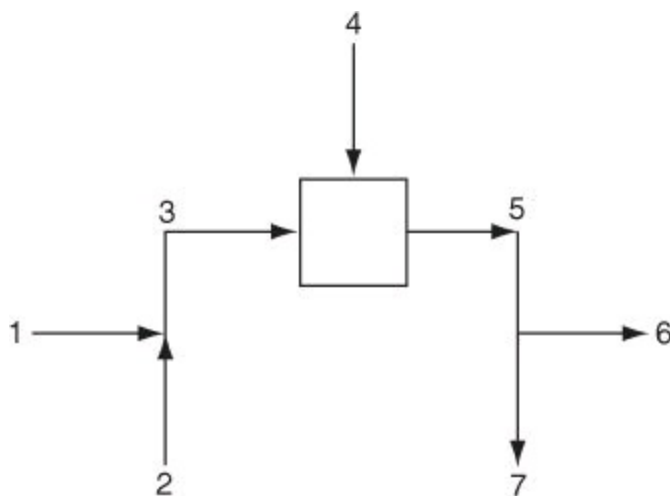
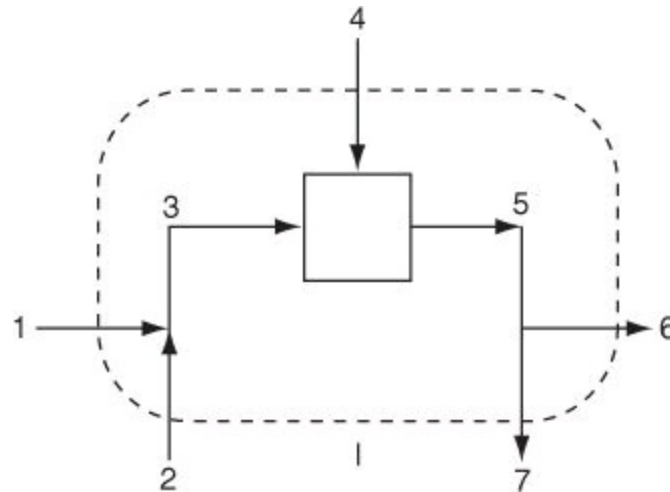
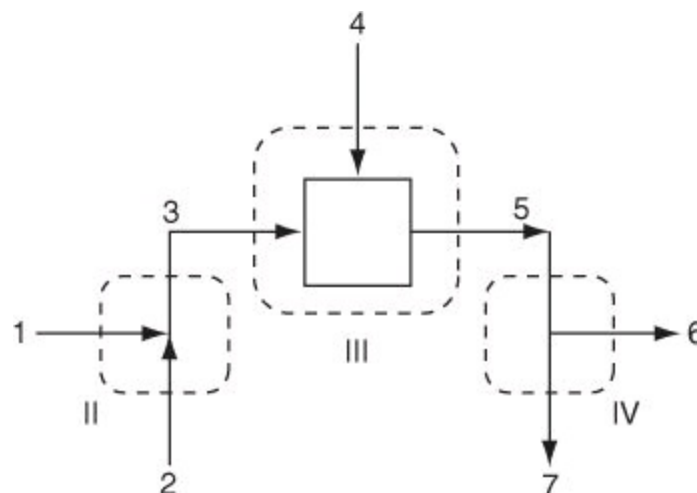

Figure 6.3a. Serial mixing and splitting in a process without reaction
Figure 6.3b. The dashed line I designates the boundary for an overall total material balance made on the system in Figure 6.3a.
Figure 6.3c. Dashed lines II, III, and IV denote the boundaries for material balances around each of the individual units constituting the overall process.
Let's first examine a multi-unit system composed of a sequential combination of units. Figure 6.3a illustrates a sequential combination of mixing and splitting stages. Streams 1 and 2 combine to form the first mixing point, streams 3 and 4 also combine in the box for the second mixing point, and stream 5 splits (at presumably a pipe junction) into streams 6 and 7. Note that the first mixing point occurs at the combination of streams 1 and 2 (presumably a junction of pipes) while the second mixing occurs where streams 3 and 4 enter the box (presumably representing a process). You will encounter both types of mixing in the problems and examples in this book and in flowsheets in professional practice. Examine Figure 6.3a. Which streams must have the same composition? Do streams 5, 6, and 7 have the same composition? Yes, because streams 6 and 7 flow from a splitter. Do streams 3, 4, and 5 have the same composition? It's quite unlikely. Stream 5 is some type of average of the compositions of streams 3 and 4 (in the absence of reaction). What is the composition inside the system (the box)? It will have the same composition as stream 5 only if streams 3 and 4 are really **well mixed** in the subsystem represented by the box.
How many material balances can you formulate for the system and subsystems shown in Figure 6.3a? First, let's examine how many total material balances you can write. You can write an **overall total material balance**, namely, a total balance on the system that includes all of the three subsystems
within the overall system boundary, which is denoted by the dashed line labeled I in Figure 6.3b.
In addition, you can make a total balance on each of the three subsystems that make up the overall system, as denoted by the boundaries indicated by the dashed lines II, III, and IV in Figure 6.3c. Finally, you can make a balance about each of the combinations of two subsystems as indicated by the dashed-line boundaries V and VI in Figures 6.3d and 6.3e, respectively.
You can conclude for the system shown in Figure 6.3a that you can make total material balances on six different combinations of subsystems.
The important question is: How many independent material balance equations can be written for the process illustrated in Figure 6.3a if more than one component exists? In Section 6.1 we stated that you can write one independent equation for each component in each subsystem except for the splitter, for which you can write only one independent material balance equation. For Figure 6.3a, assume that three components are present in each of the separate subsystems shown in Figure 6.3c. You can write three independent material balance equations about the first pipe junction, three for the box, plus one independent equation for the splitter, for a total of seven (7) independent material balance equations. How many material balances are possible if you include *all of the redundant equations*, total as well as component balances?
Figure 6.3b: 3 components plus 1 total
Figure 6.3c: $3 \times 3 = 9$ components plus 3 total
Be careful to **select an independent set of equations**. As an example of what not to do, do not select three component balances for (a) the first pipe junction shown in Figure 6.3c, (b) the box, and (c) one balance for the splitter plus an overall total balance (Figure 6.3b). This set of equations would not be independent because, as you know, the overall balance is just the sum of the respective species balances for the individual unit. However, the total balance could be substituted for one of the component balances.